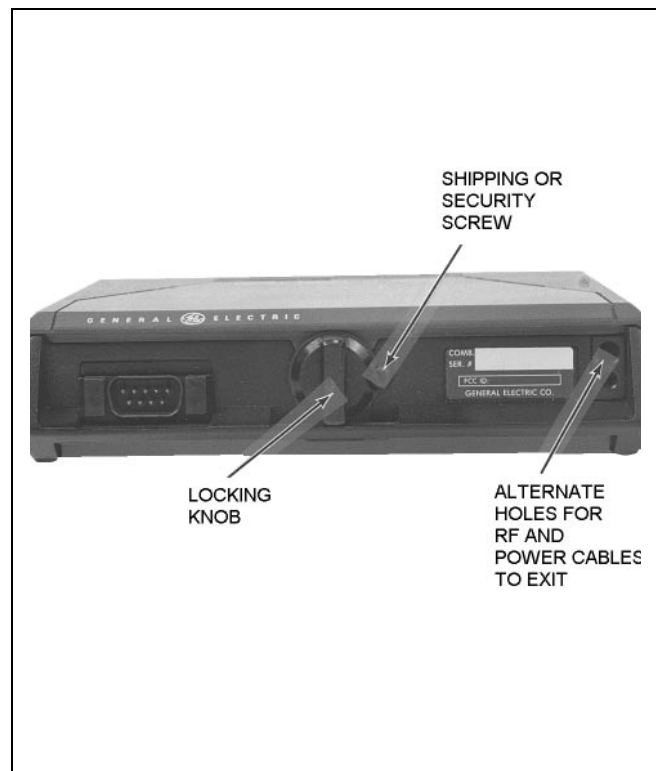

Figure 1 - Removing Bottom Cover
1. Remove the #15 TORX security screw that secures the locking knob in place (see Figure 1).